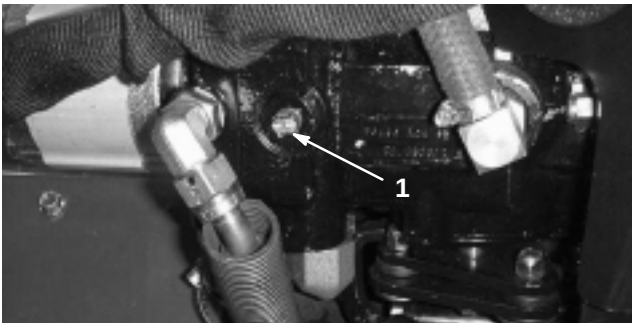

Figure 36
- 1. Locate the bypass valve on the pump (Fig. 36) and rotate it 90° (the bypass valve lever should be horizontal when it is open).